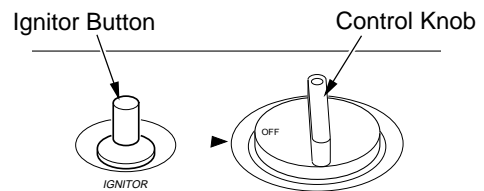

Figure 19 - Control Knob In The OFF Position
4. Wait five (5) minutes to clear out any gas. Then smell for gas around heater and near the floor. If you smell gas, **STOP!** Follow "B" in the safety information above. If you don't smell gas, go to the next step.
5. Press in control knob and turn counterclockwise  to the PILOT position. Keep control knob pressed in for five (5) seconds (see Figure 19).